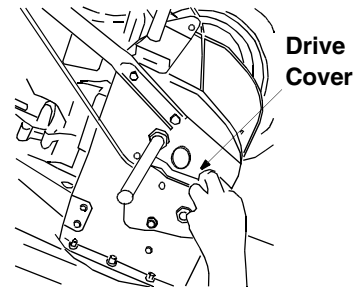

Figure 32
- Remove the four screws securing the left drive cover to the frame. The drive cover is located behind the wheel chain case. Remove the drive cover from the side of the frame. See Figure 32.